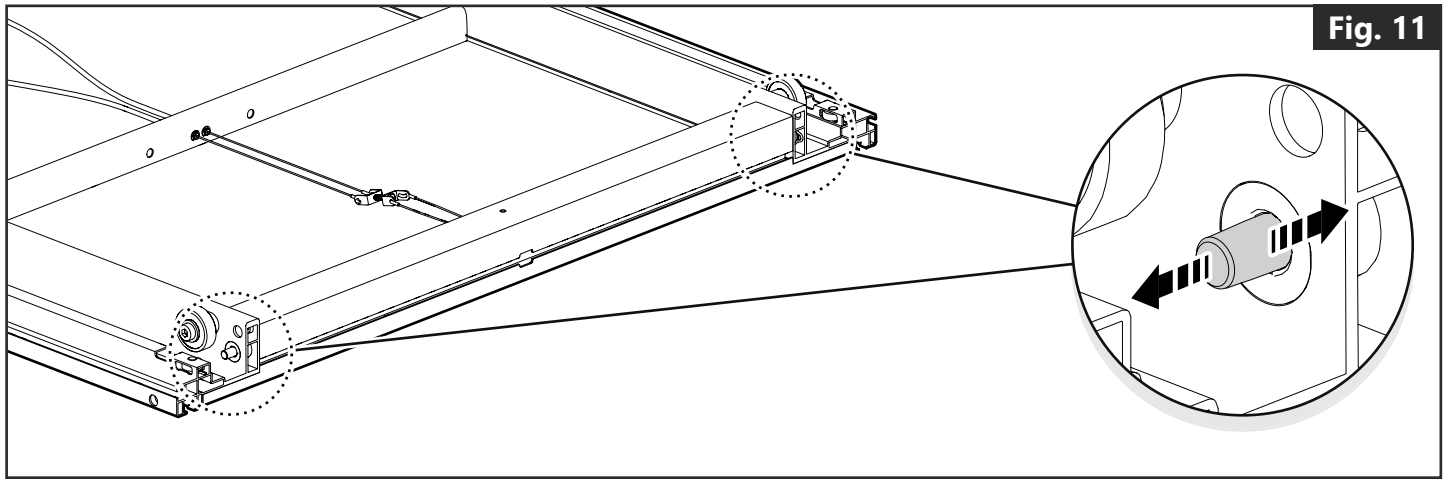

Fig. 11
- The Mountain Top Slide™ deck locks into the base frame using 2 locking pins. Both locking pins are located on the back of the deck. The locking pins retract and unlocks the deck when the deck handle is pulled. **(Fig. 11)**